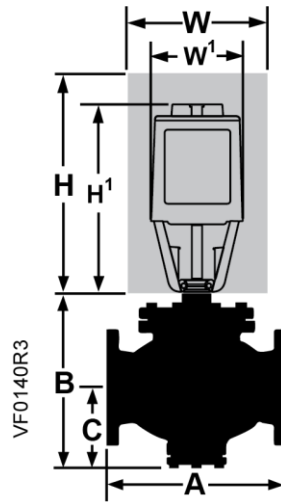

Figure 7 Dimensions.
- Allow sufficient space for servicing the valve and actuator. See Table 11 for valve body dimensions. See Figure 7 and Table 10 for dimensions of the service envelope recommended around the actuator.